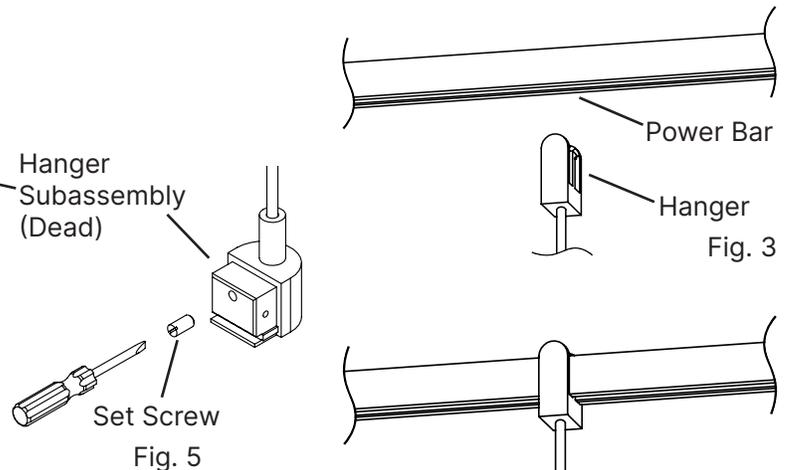
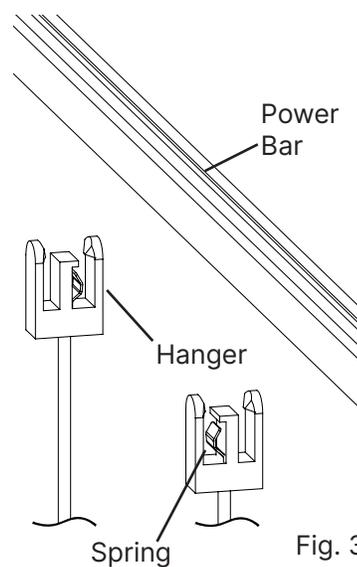

Fig. 4
Fig. 3
3. Align **Hanger** with **Power Bar** (Fig. 3) and press down firmly on the top of the Power Bar, while pressing up on the bottom of the Hanger, until the Power Bar clicks into place (Fig. 4).
1. Make sure **Spring Contacts** of each **Hanger** face opposite directions (Fig. 3).